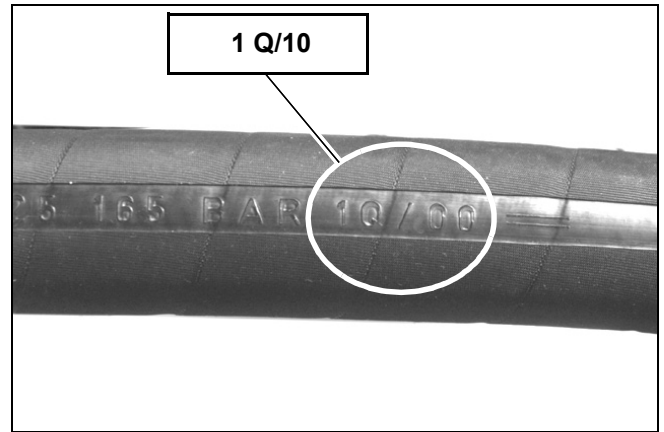

Figure 4-18 Hydraulic Hose Manufacture Date
- Hydraulic hoses must be replaced every six years from the date of manufacture, even if they do not appear damaged. The date of manufacture (month or quarter and year) is indicated on hydraulic hoses. See Figure 4-18.